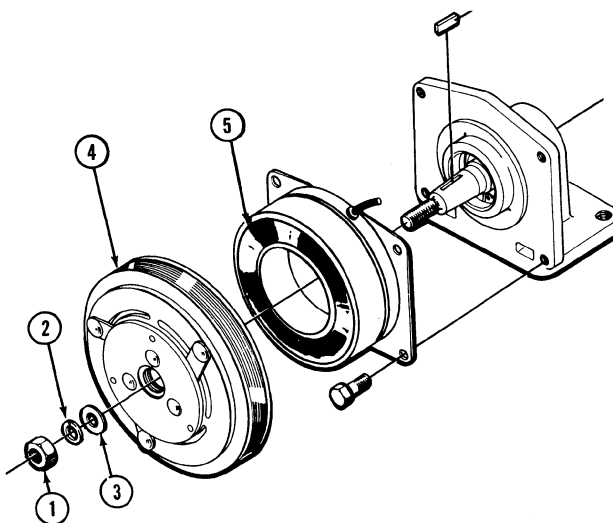

Figure 16
1. Remove the nut, lockwasher, flat washer and magnetic clutch (1), Figure 16.
2. Unbolt and remove the field coil (5), Figure 16.